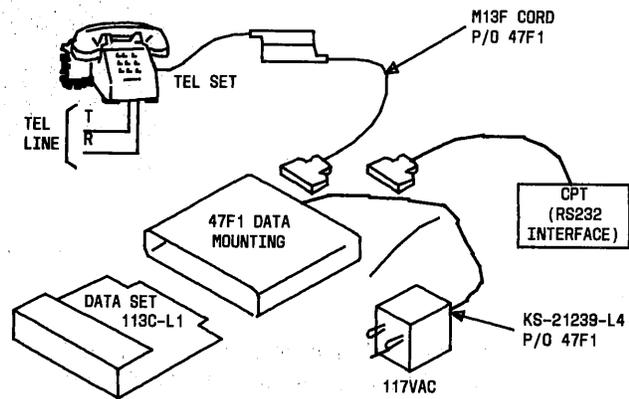

Fig. 3—Single Data Set Installation Without ACU
- One data set enclosed in a 47F1 data mounting and a 565HK or 2565HK key telephone set (Fig. 3). Any 801C-type ACU may be installed as an option, using a 149B adapter (Fig. 4). Installation of DAS 801C-L1/2 or 801C-L1/2A can be simplified by using an M15H cord instead of the M13G and M13F cords. The 149B adapter is not needed (Fig. 5). If the M15H cord is used, the telephone set is not required when manual operation and voice communications are not needed.